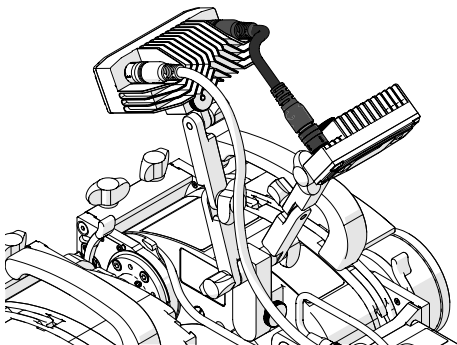

Fig. 37 - Connect satellite camera cable to both cameras
5. Connect the satellite camera cable to both the camera and satellite camera (Fig. 37).